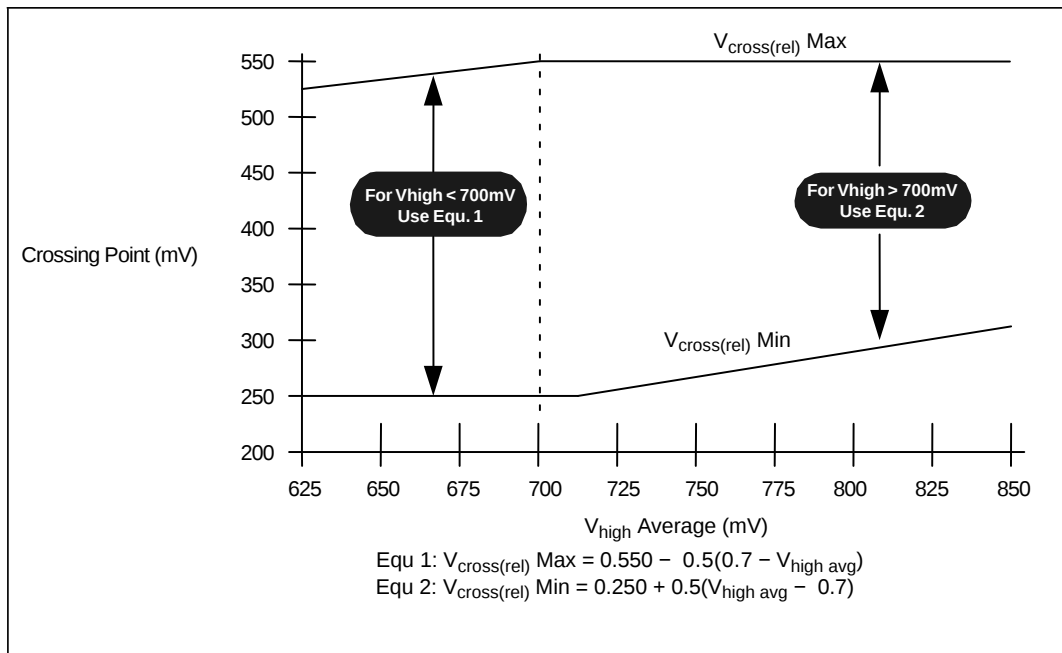

Figure 16. V_{cross} Range Clarification (Note 34)
16. Vcross(rel) Min and Max are derived using the following, Vcross(rel) Min = $0.250 + 0.5 (V_{\text{high avg}} - 0.700)$. Vcross(rel) Max = $0.550 - 0.5 (0.700 - V_{\text{high avg}})$. (see Figure 16 for further clarification).